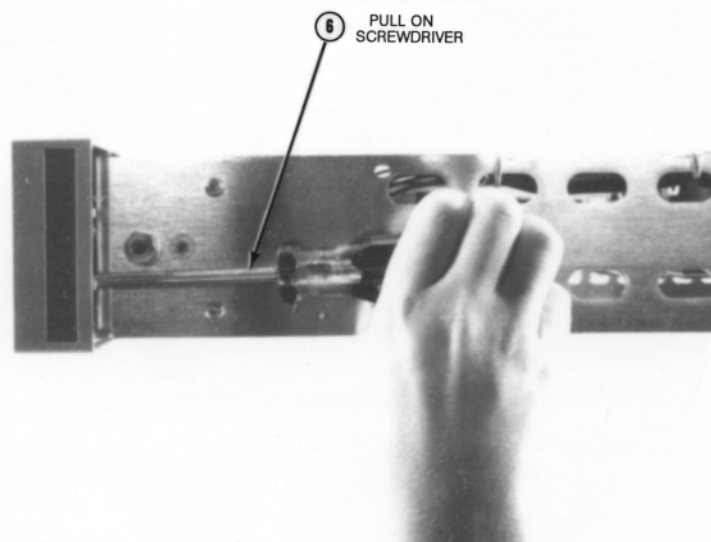

Figure 23. Remove Front Panel Assembly
7. Refer to Figure 23. Insert a large screwdriver between the Front Panel assembly and the chassis, as shown in the figure. With the screwdriver, carefully pry the left side of the Front Panel assembly loose. Move the front panel out of the chassis until it unlocks from the chassis. Do not move it any more, or it may break.